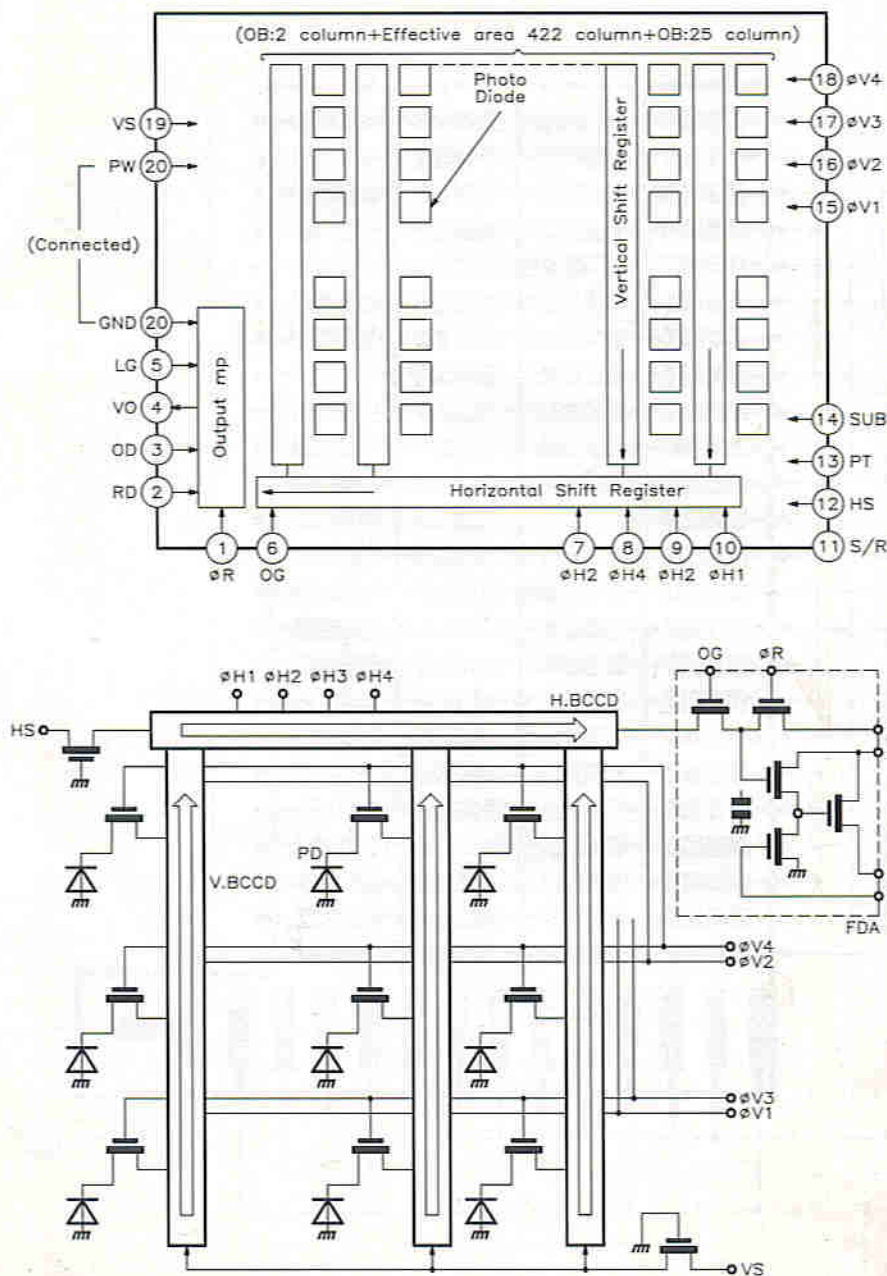

Figure 4. Interline transfer.
But there are now two other types that do not rely on this method of charge transfer: Interline Transfer (IT) and Frame Interline Transfer (FIT). The former does not have a storage area, instead, the charges are shifted sideways during field blanking into cells adjacent to each pixel which form opaque vertical shift registers through which the charges are transferred by charge coupling to the horizontal shift register (see Figure 4).